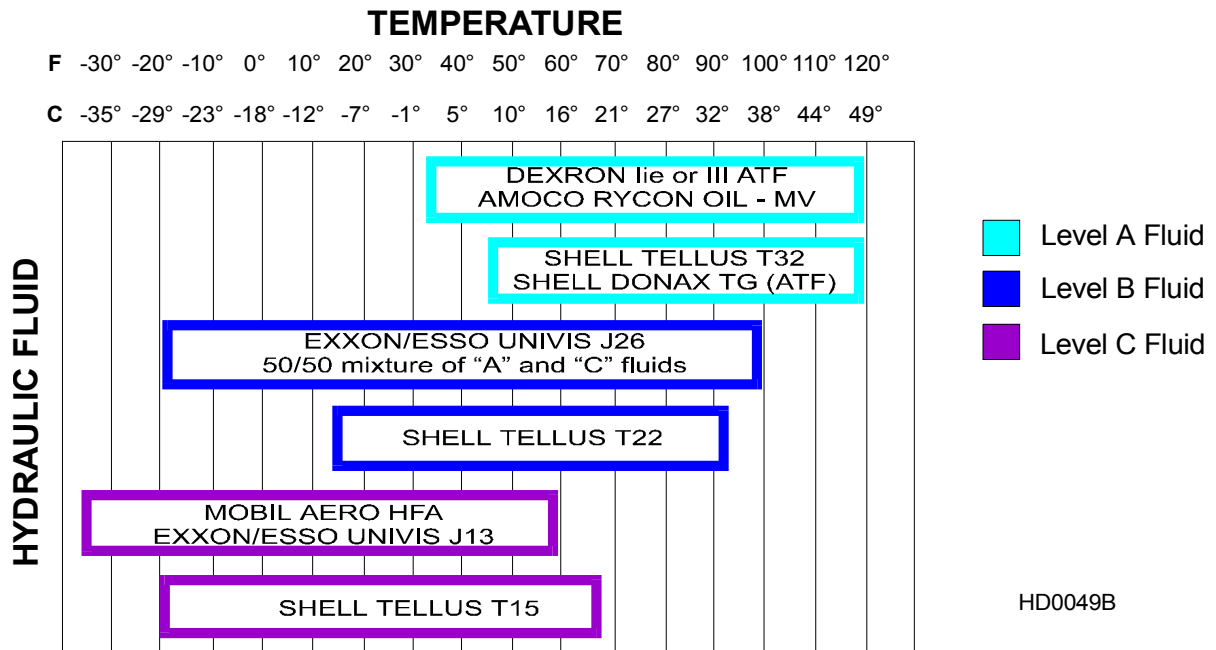

FIG. 3-6
**See Figure 3-6.** If you are operating in temperatures -20° to 100° F (-29° to 38° C), use an all-weather hydraulic fluid such as Exxon Unavis J26. For alternate fluids and/or other temperature ranges, refer to the chart below. Operating above the recommended temperature range of a fluid could result in excessive pump wear. Operating below the recommended temperature range could result in reduced hydraulic cylinder speed. To change fluid types, replace one gallon of the current fluid with four liters of the alternate fluid.